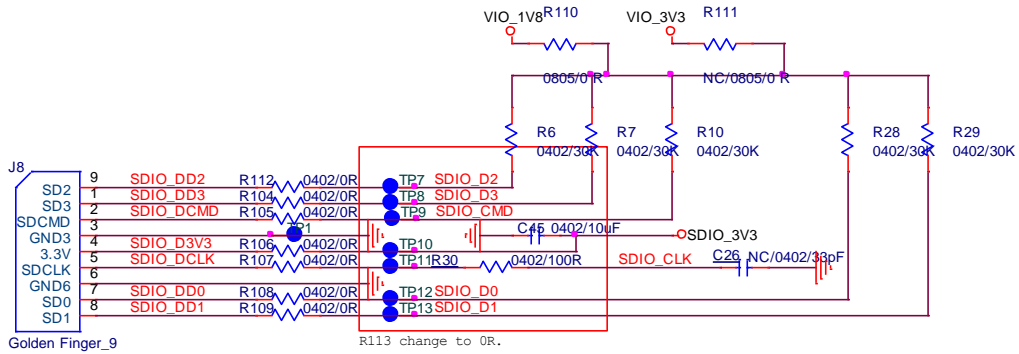

Figure2. WiFi verification connection interface to Host SDIO as using SDIO2.0
- ❖ Refer to Figure 2 SDIO pin definition connects the J8 interface of AP6281S evaluation board to Host SDIO control interface.